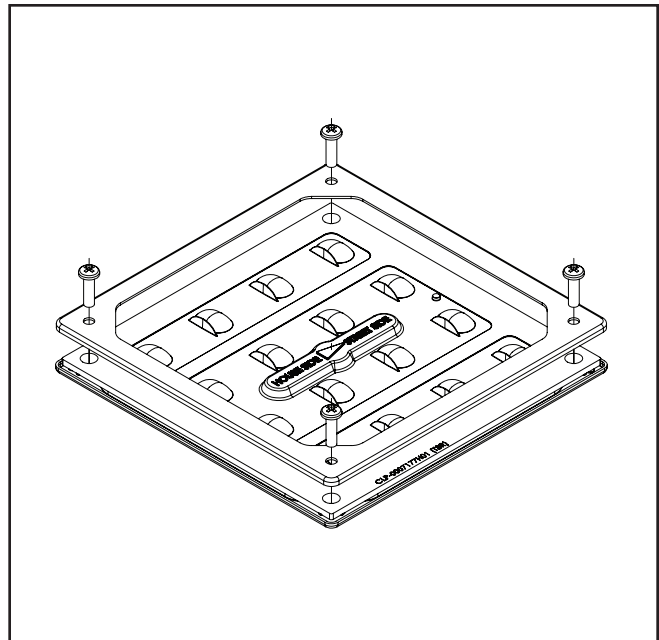

Figure 1.
3. Holding the trim plate or shield (if applicable) in place, secure the assembly to the heatsink using the four screws (Figure 1).